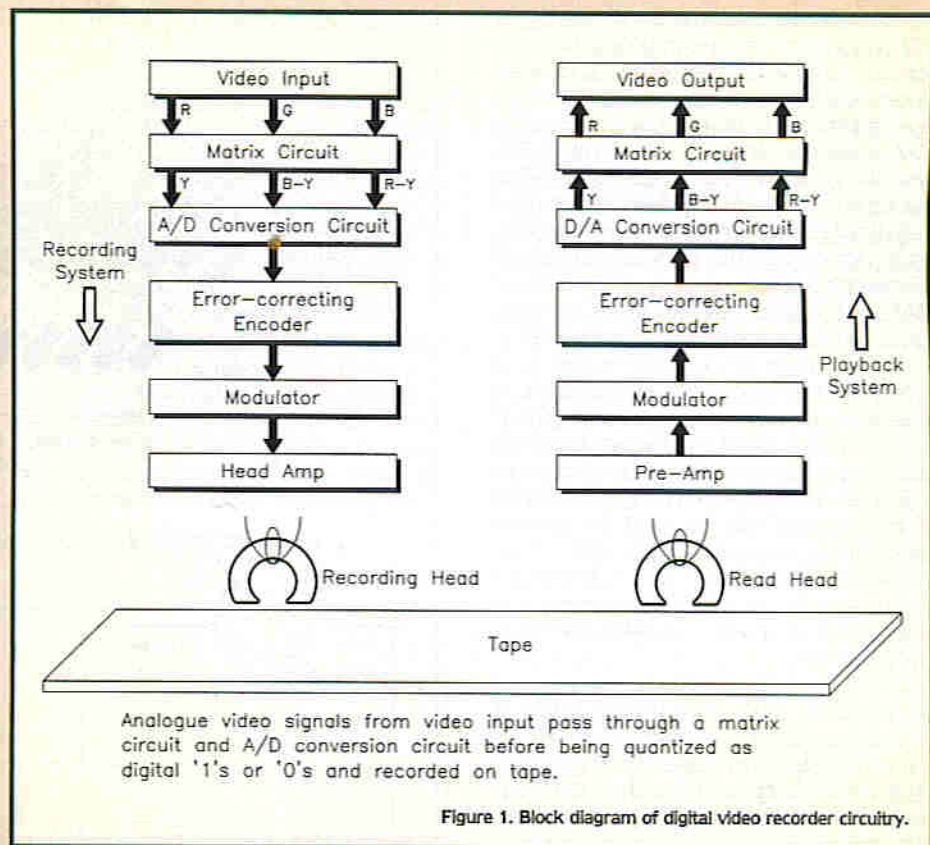

Figure 1. Block diagram of digital video recorder circuitry.
forebears, D-1 uses a component video signal, and the machine can be switched between PAL and NTSC. The signal consists of luminance (Y) and colour difference signals (R-Y/B-Y); these being sampled at a ratio of 4:2:2 - Y at 13.5MHz, R-Y and B-Y at 6.75MHz. This halves the horizontal resolution of the colour, but because it is the luminance that provides all the picture detail, this compromise is acceptable to reduce the data rate. Quantisation is again 8-bit. The recording and playback system is shown in Figure 1. The signal is recorded in time division multiplex (TDM) form, with the individual bits recorded as changes in magnetic direction - 0 = S-N, 1 = N-S. Because the volume of data is 226M-bit/s, each field is divided into twelve tracks (PAL), and